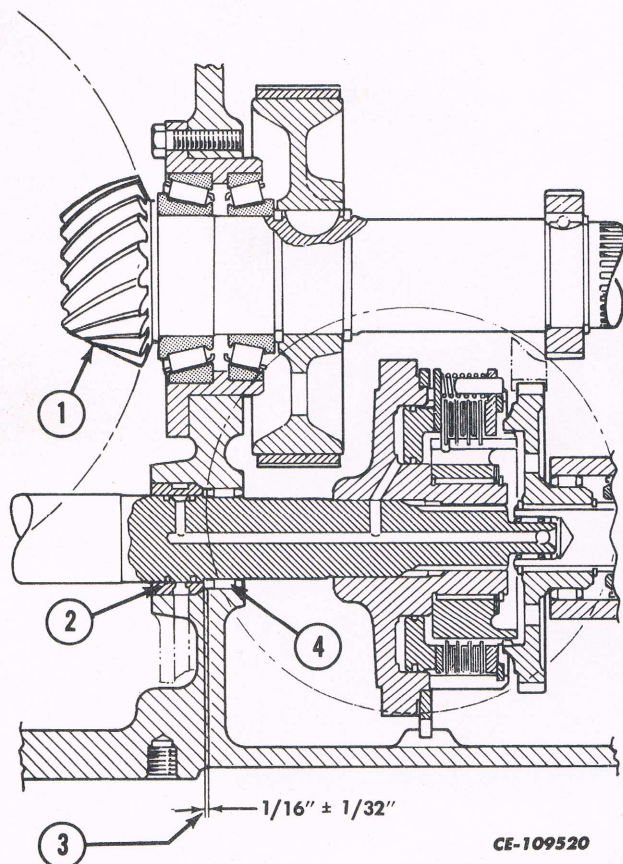

Fig. 10
2. Fig. 10 covers the drive shaft bushing installation. Use OTC driver with 40 mm (1-9/16 in) pilot, 38 mm (1-1/2 in) spacer and 50.8 mm (2 in) driven disc.
Bottom out bushing as shown in Fig. 10. For needle bearing installation, use OTC driver with 38 mm (1-1/2 in) pilot and 48 mm (1-7/8 in) driven disc. Position to within 1.59 ± 0.8 mm ($1/16 \pm 1/32$ in) of the front face of the bushing.